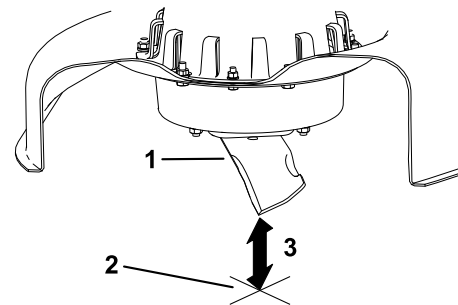

Figure 32
5. Measure from the tip of the blade to the flat surface (Figure 32).